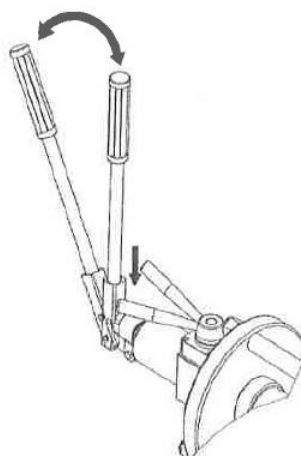
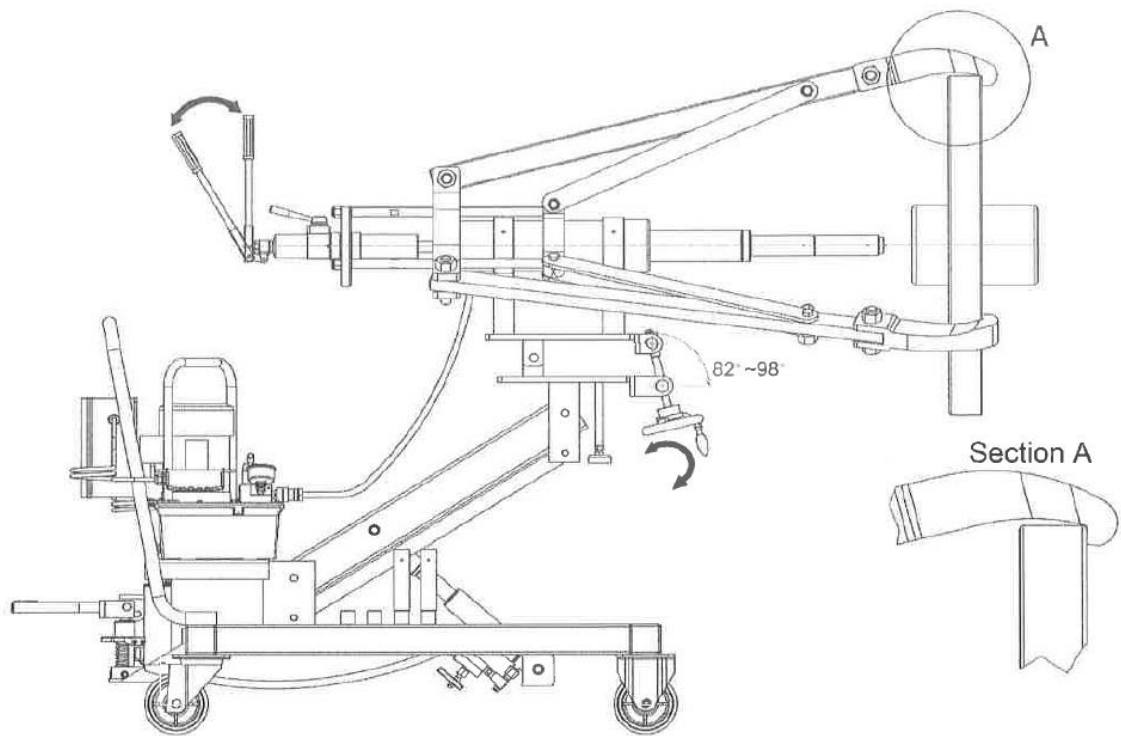

Figure 4-1 – Closing the Puller Jaws
Figure 4-2 – Fully Engaged Jaws
- 5.3.3 Rotate the control valve on the pump in a counter clockwise direction and pump the handle to close the jaws tightly around the part to be pulled (see Figure 4-1). Ensure the jaws are fully engaged and secure (see Figure 4-2).